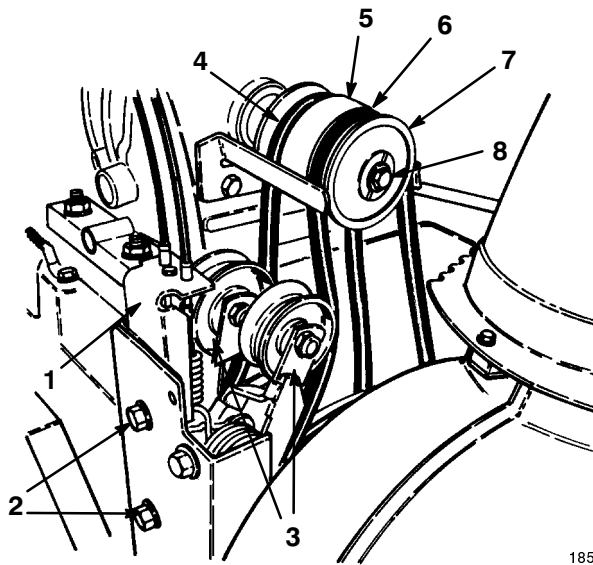

Figure 31
If the auger/impeller or traction drive belts (Fig. 31) becomes worn, oil-soaked, or otherwise damaged, replace the belt.
4. Remove the two flange head cap screws that secure the idler pulley assembly to the engine frame and remove idler pulley assembly (Fig. 31).
5. Remove the cap screw and the lock washer that secure the half sheave to the front of the pulley assembly (Fig. 31).
6. Slide the half sheave and auger/impeller belt off the crankshaft and remove the belt from the impeller pulley (Fig. 31).
7. If you need to replace the traction drive belt, slide the middle pulley section and the belt off the crankshaft, and remove the belt from the pulley (Fig. 31).
9. If you replace the traction drive belt, install it around the traction drive and the middle pulley section, and slide the middle pulley section onto the crankshaft (Fig. 31).
10. Install the belt on the idler pulley (Fig. 31).
11. Install the auger/impeller drive belt around the half sheave, and slide the half sheave onto the crankshaft (Fig. 31).
13. Install the idler pulley assembly on the engine frame and secure it with the two flange head cap screws (Fig. 31).